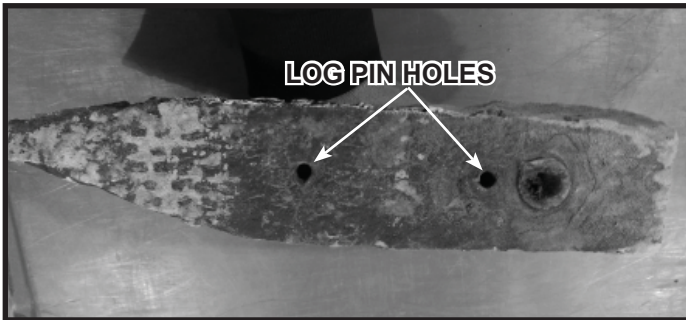
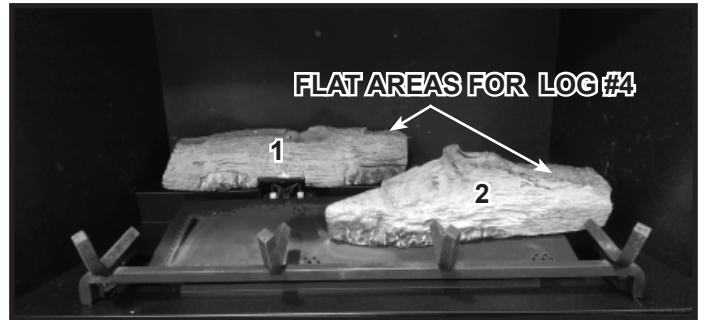

Figure 6. Log #2 Detail
Figure 7. Log #2 Installed
**Log #2 (SRV2218-704):** Note the location of the log pin placement holes on the bottom of Log #2, shown in Figure 6. Position Log #2 by placing over the two log pins located on the surface of the burner. Figure 7 shows Log #2 installed.
**Log #4 (SRV2218-702):** Note the flat areas on Log #1 and Log #2 highlighted in Figure 7. Position Log #4 by placing the left end of the log fully into the flat area on Log #1. Set the other end of Log #4 in the flat spot on Log #2. See Figure 12. Note the differences between Log #4 and Log #6. Log #4 has bark across the entire back and a burnt section on the left, whereas Log #6 is only partly covered by bark and the burnt section is in the center of the log. See Figure 10 and Figure 11.